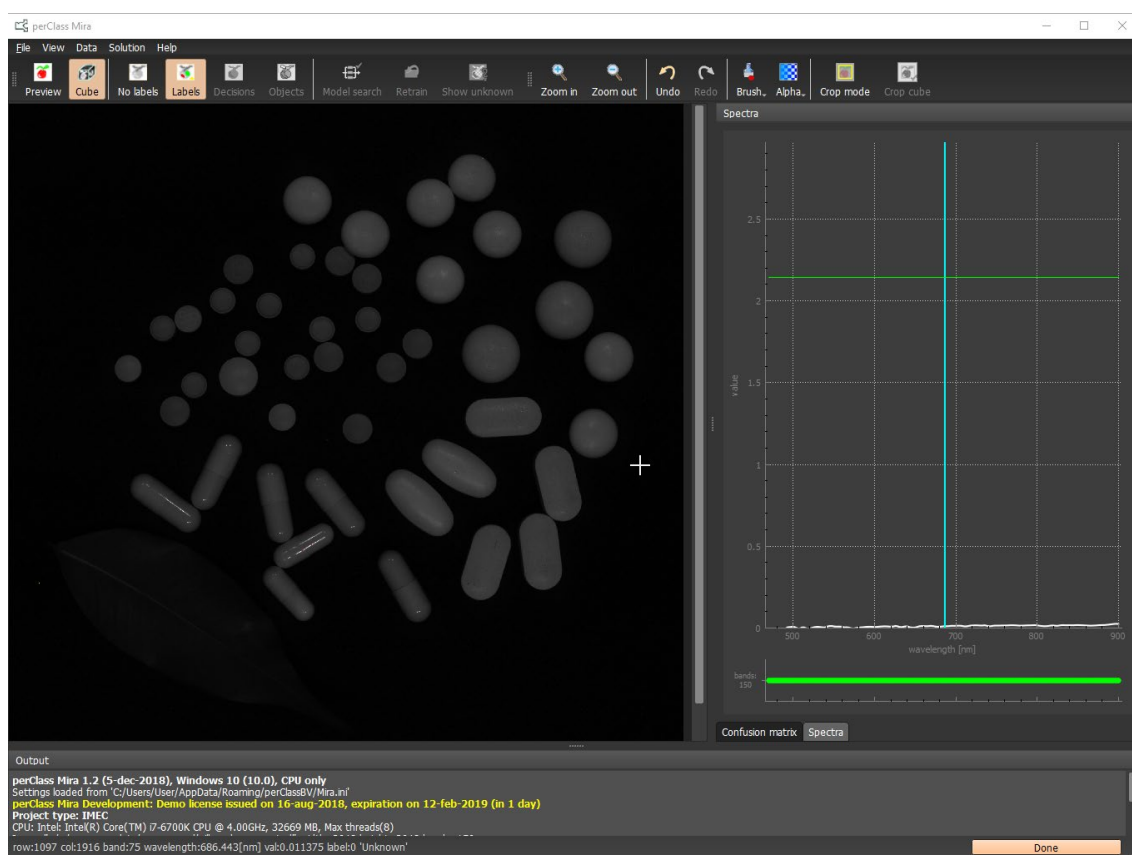

Figure 98 GUI of perClass Mira software
- Step 4** - The cube will open in the perClass Mira software (see Figure 98). Please refer to http://doc.perclass.com/perClass_Mira/Introduction.html for full documentation and user manual on how to use perClass MIRA software to analyze the cube.